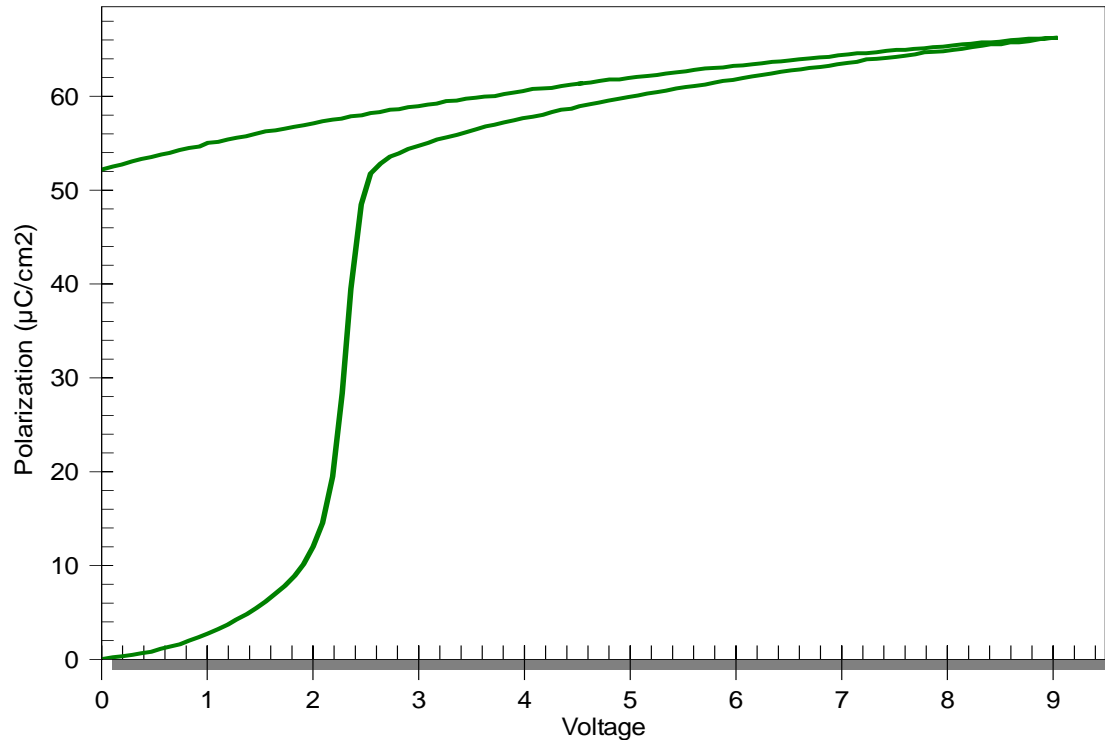

Figure F02.4
- 7) Execute the test. The hysteresis should look like Figure F02.4 below. Save this data in the folder with the name “Positive 9V Half Loop”.
Notice how both of the half-loops start at zero polarization with one going up and the other down. This caused both the X and Y scales of the plot to change from that in Figure F02.4. We saw this up/down characteristic earlier in Figure F01.11 of Experiment F01 -The Saturated Memory State.doc. Why does this occur? We are using the <<NONE>> plotting format which plots the raw data where the first point is always zero. The vertical direction indicates which way the polarization is switching, up or down. What happens if we try to center the loops about each other using the “Centering” filter format?